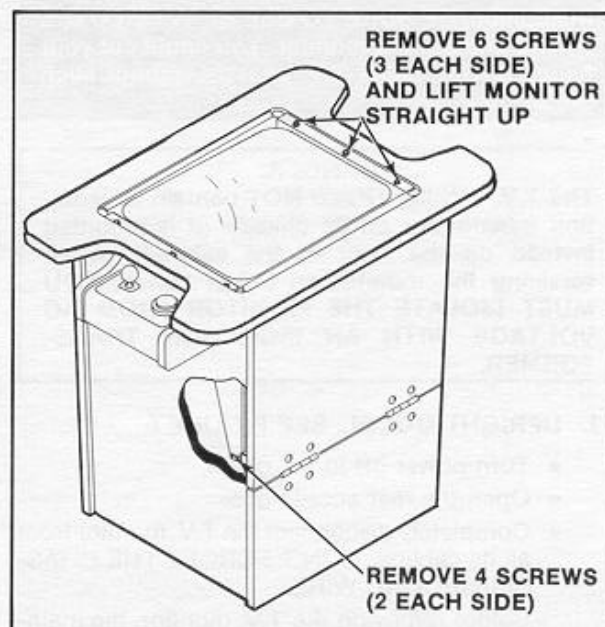

Figure 8. Removing monitor from Cocktail game
3. COCKTAIL TABLE MODEL: SEE FIGURE 8